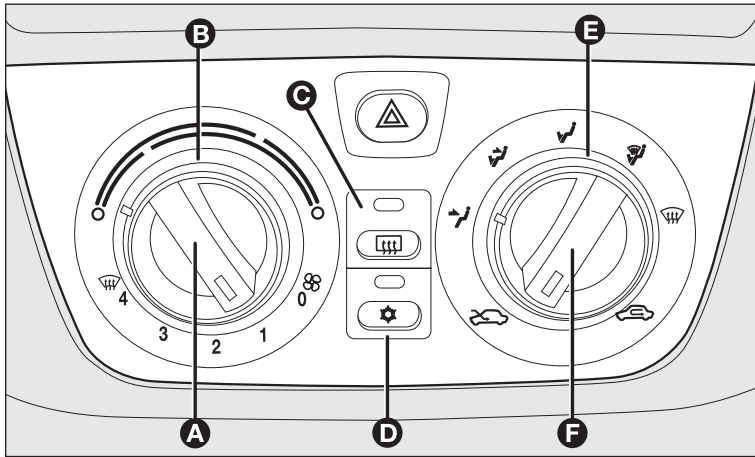

fig. 61
## CONTROLS fig. 61
The ring **E-fig. 61** is used to make fresh air reach the entire passenger compartment. There are five selections:
Turn the ring **B-fig. 61** (indicator pointing to the red sector) rightwards to turn the temperature up or leftwards to turn it down;
- turn the ring **B-fig. 61** to the blue sector;
Position the knob **F-fig. 61** to .
- turn the ring **B-fig. 61** to the red sector;
- stop internal air recirculation by turning knob **F-fig. 61** to .
Press button **C-fig. 61** to activate the function. The LED in the button will light up when the function is on.
- ❑ turn the ring **B-fig. 61** to the blue sector to select the temperature;
- ❑ stop internal air recirculation by turning knob **F-fig. 61** to .